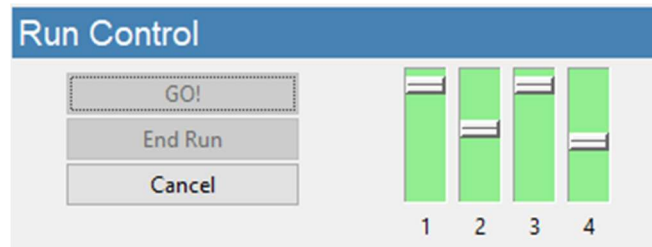

Figure 5. Run Control frame and fill monitors status.
- Press "GO!" to prime the cartridge and **start data acquisition automatically** (see Figure 5).
- The fill monitors are vertical sliders in the Cartridge Initialization frame that indicate the fill status in various parts of the cartridge (see Figure 5).
- After normal priming, the fill monitors should have approximately the pattern shown in Figure 5.